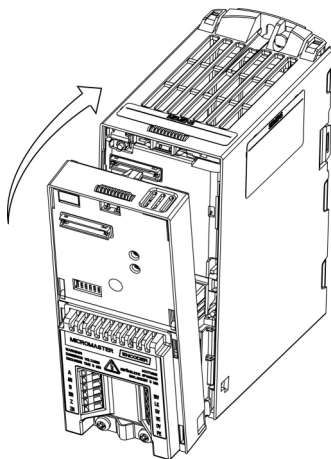

Figure 4-1 Fitting the Encoder Module
3. Fit the Encoder Module to the inverter as shown in Figure 4-1 above.